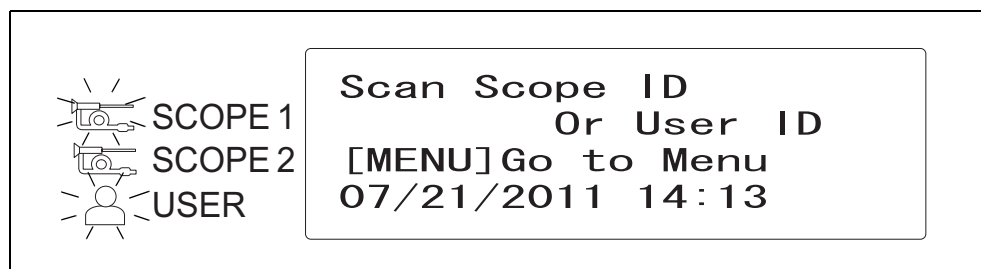

Figure 5.1
- 4 A short beep sounds when the self-check is completed properly. As seen in Figure 5.1, the Scope ID indicator (SCOPE1) and User ID indicator (USER) indicators blink. The Standby screen is displayed on the LCD monitor.